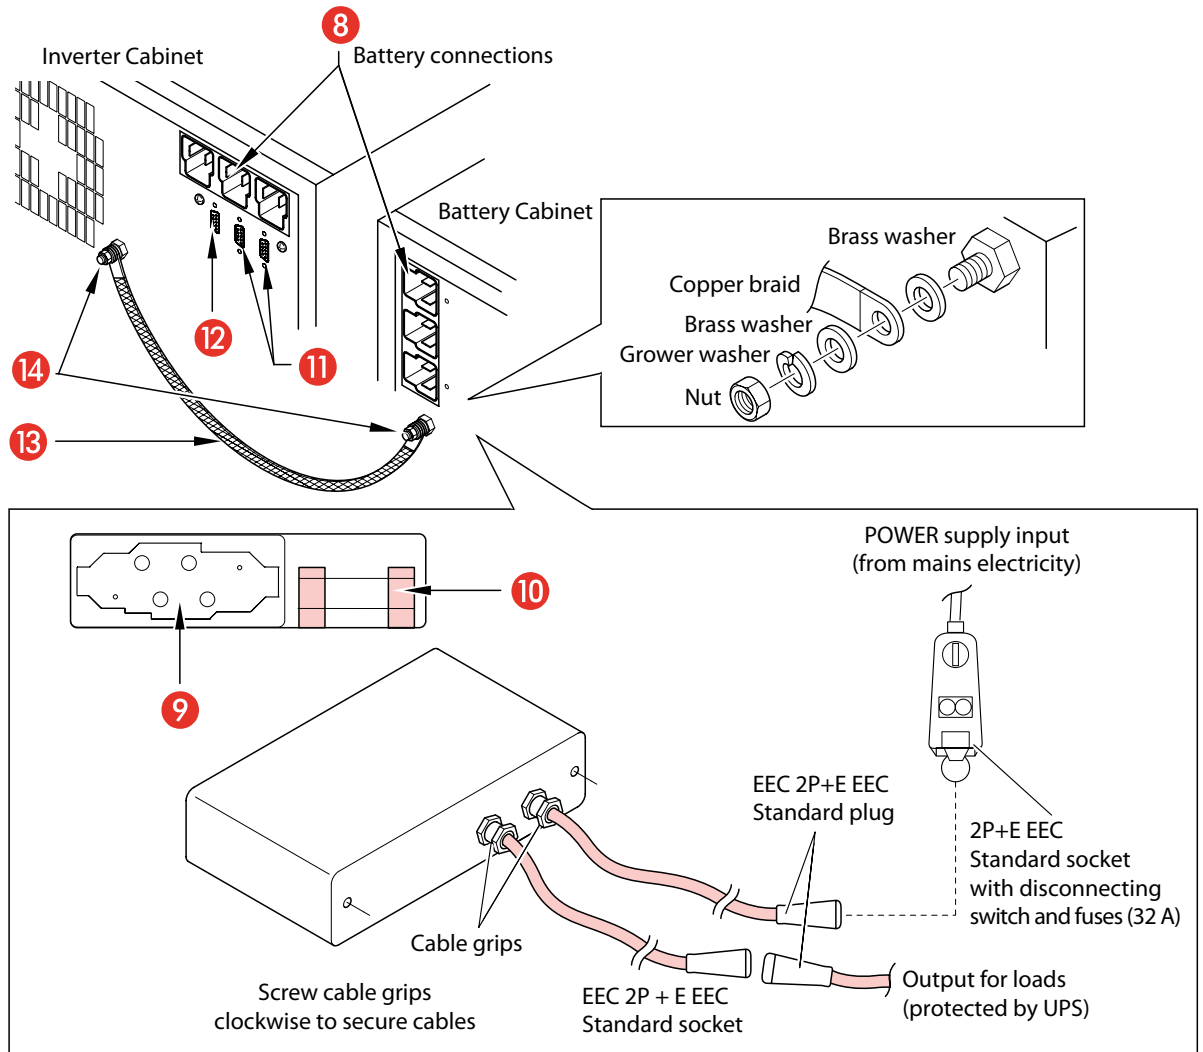

Fig. 6.
Double Cabinet (fig. 6):
2. Connect the earth between the two cabinets using the copper plaited conductor supplied, as shown in fig.6.
7. Put the Input-Output connector into the plug [9] located on the rear of the UPS, and secure to its case using the screws supplied (see fig. 6).